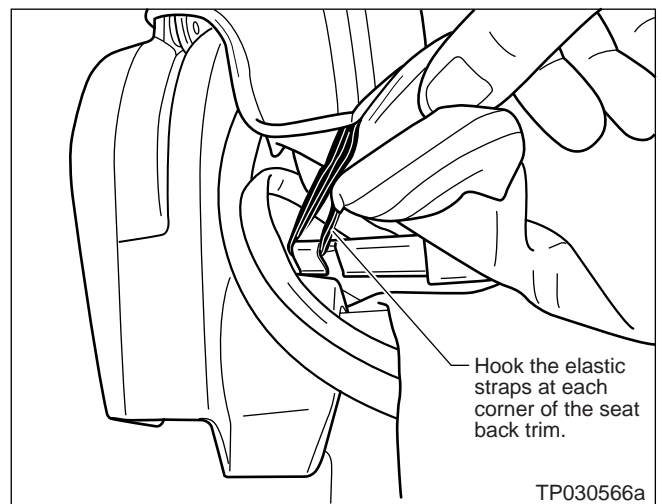

Figure 19
21. Hook the elastic straps at the lower left and right corners of the seat back (see Figure 19).